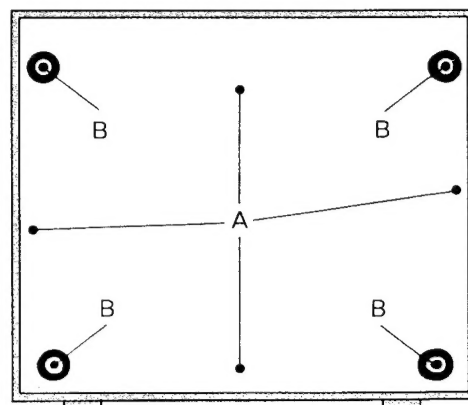

Fig. 2
- (b) Remove with a Phillips-head screwdriver the eight screws which hold the bottom base. (Fig. 2)